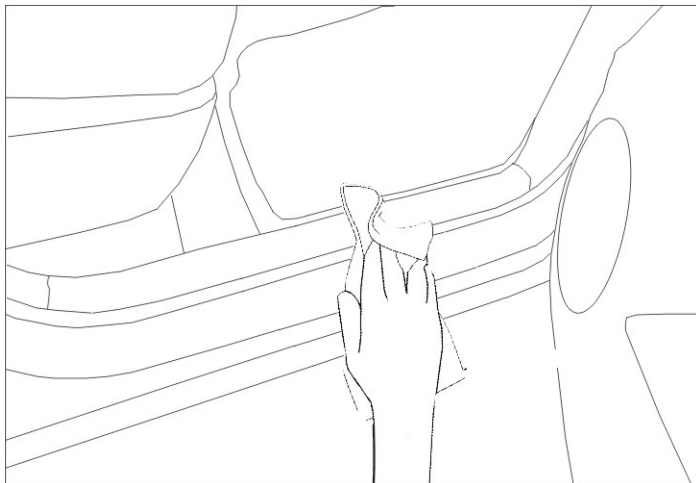

Fig. 4-1
- (ii) Clean surface thoroughly using VDC approved cleaner and wipe dry. Do allow cleaner to air dry. (Fig. 4-1)